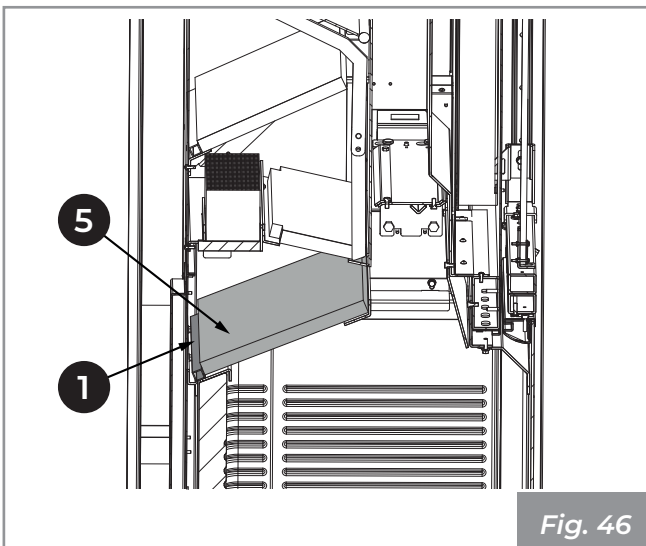

Fig. 46
- 4) Slide out and extract the panels (5) (Fig. 46)
5) Slide out and extract the spacer (1).